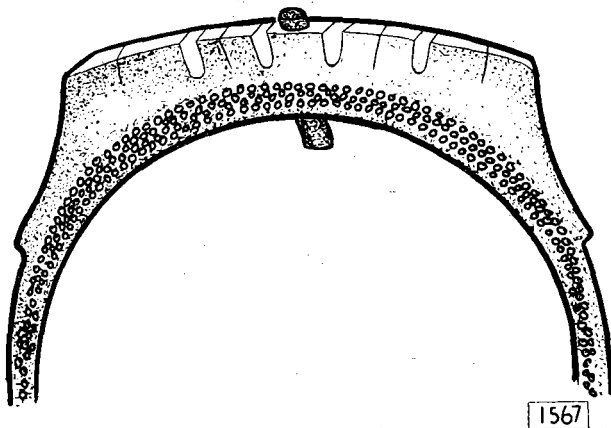

Fig. 28. Section showing repair completed.
5. Withdraw the needle and cut off surplus plug about $\frac{1}{8}$ " (3.17 mm.) from surface of tread (Fig. 28.) Tyre can be inflated and used immediately.